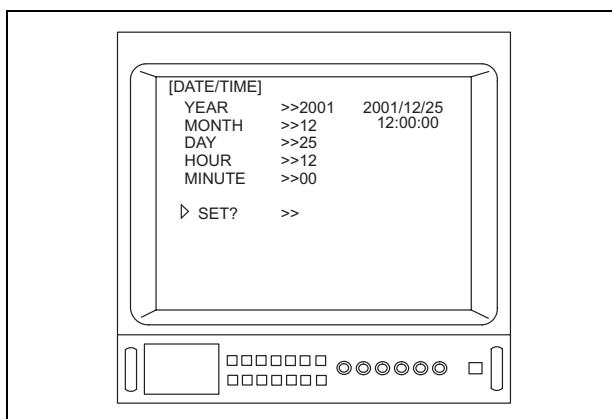

Figure 5.11
8. When steps 4. to 7. have been repeated and all settings have been made, depress the menu switches “◀” or “▶”, or the “↑/↓/←/→” key on the keyboard to move the arrow “▷” to “SET?” (see Figure 5.11).